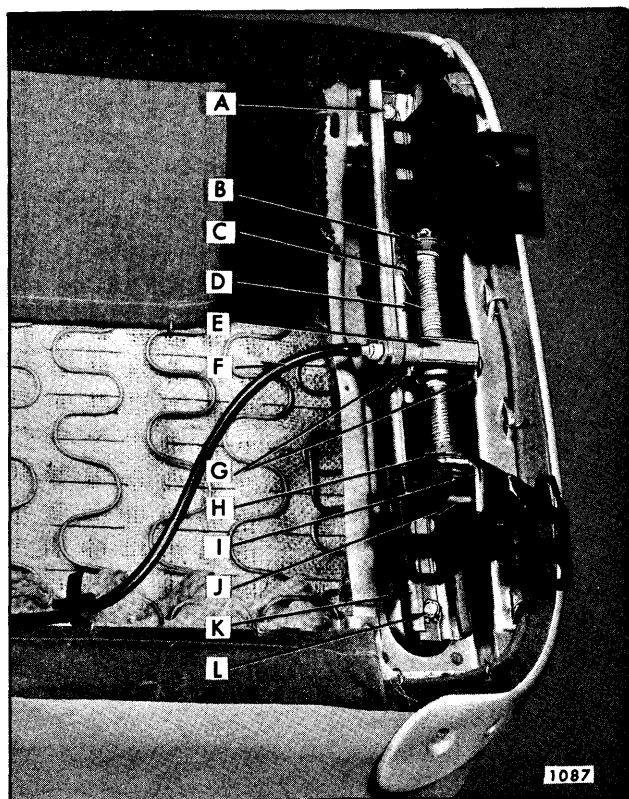

Fig. 10-9—Horizontal Power Adjuster - "C & E" Styles
3. Detach power drive cables from gear nuts to adjuster to be removed (Fig. 10-9, 10-10, 10-11 and 10-12).
4. Remove adjuster-to-seat bottom frame front and rear attaching bolts and remove adjuster from seat assembly (Fig. 10-9, 10-10, 10-11 and 10-12).
3. Using a "clutch" type screwdriver or other suitable tool, remove two shoulder bolts securing gearnut to upper slide portion of seat adjuster (Fig. 10-9).
3. Using a suitable tool (preferably a "clutch" type screwdriver) remove two shoulder bolts securing gearnut to upper slide portion of seat adjuster assembly (Fig. 10-9).
4. Remove retainer that secures stop bracket crosspin to adjuster front pedestal and remove crosspin (Fig. 10-9).
2. Using a suitable tool (preferably a "clutch" type screwdriver), remove two shoulder bolts securing gearnut to upper channel of seat adjuster assembly (Fig. 10-9).